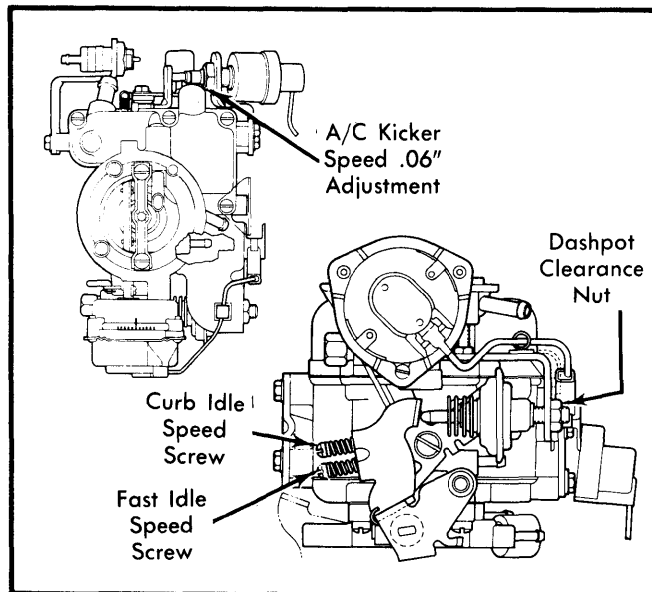

Fig. 2 Adjusting YFA 1-Bbl. Carburetor on 4.9L Engines (Light Duty)
2) Allow engine speed to stabilize and measure curb idle speed. To set curb idle speed, adjust curb speed screw to obtain specified reading. See Fig. 2.
- 3) Place fast idle screw on second step (kickdown) of fast idle cam. Adjust fast idle speed to specifications. See Fig. 2. Remove plugs from vacuum hoses and restore all hoses to their original locations.
Each time curb idle speed is adjusted, check dashpot clearance. Collapse dashpot stem and check clearance between dashpot stem and throttle lever pad. To adjust, remove air cleaner and loosen lock nut on dashpot. Turn dashpot in or out to achieve specified clearance. Tighten lock nut. See Fig. 2.